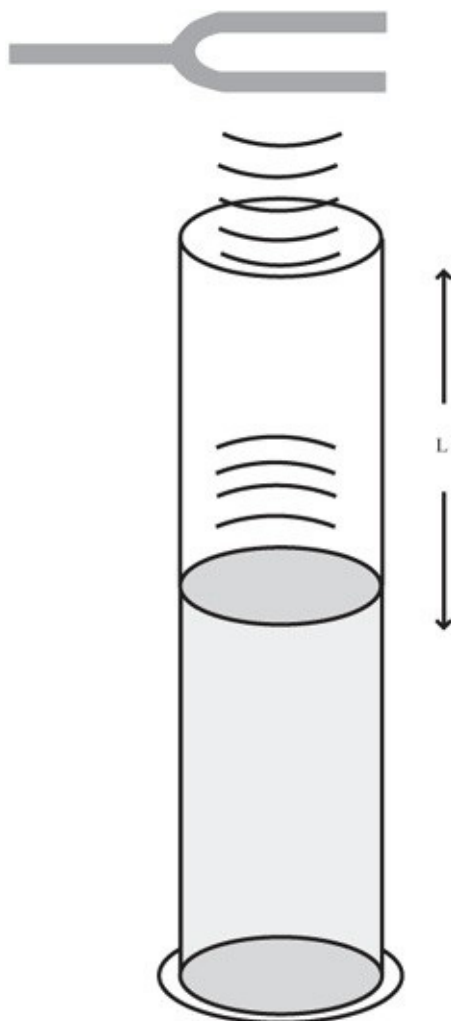

Figure 73-1 *Finding the column length that results in resonance at a particular frequency.*
2. Hold the ringing tuning fork over the top of the graduated cylinder, as indicated in Figure 73-1.